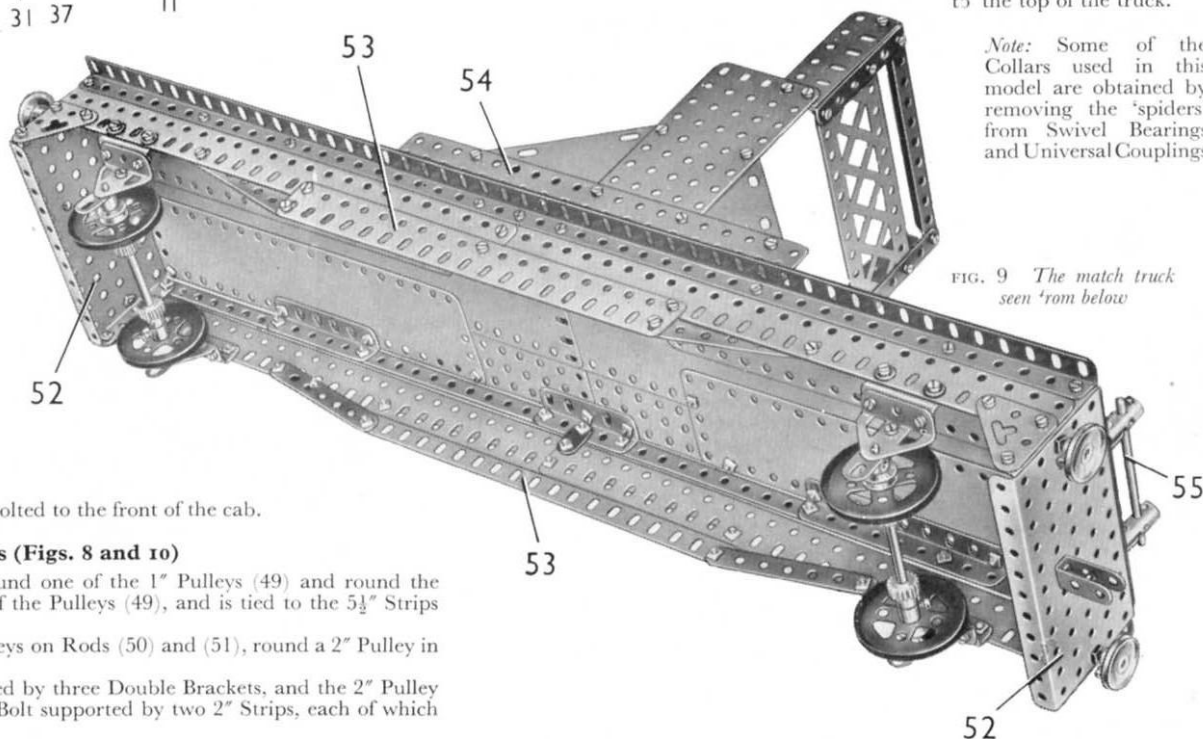

FIG. 9 The match truck seen from below
#### The Match Truck (Fig. 9)
The top of the match truck is made by connecting two  $24\frac{1}{2}$ " Angle Girders at their ends by  $5\frac{1}{2}$ "  $\times$   $2\frac{1}{2}$ " Flanged Plates (52). The top is filled in by two  $12\frac{1}{2}$ "  $\times$   $2\frac{1}{2}$ " Strip Plates along the centre and two  $9\frac{1}{2}$ "  $\times$   $2\frac{1}{2}$ " Strip Plates at each side. At the middle two  $5\frac{1}{2}$ "  $\times$   $3\frac{1}{2}$ " Flat Plates are bolted to the ends of the Strip Plates (Fig. 9), and are connected to the sides by  $2\frac{1}{2}$ " Angle Girders. The  $9\frac{1}{2}$ "  $\times$   $2\frac{1}{2}$ " Strip Plates are supported by 3" and  $4\frac{1}{2}$ " Angle Girders bolted to the  $24\frac{1}{2}$ " Angle Girders.
The wheels are 2" Pulleys, each of which is free to turn on a 5" Rod fixed in Double Arm Cranks bolted to Trunnions. The Trunnions are supported by  $1\frac{1}{2}$ " Angle Girders fixed to the Flat Girders (Fig. 9). Each wheel is spaced from the Double Arm Crank by a  $\frac{1}{2}$ " loose Pulley, and is held in position by a  $\frac{1}{2}$ " Pinion.